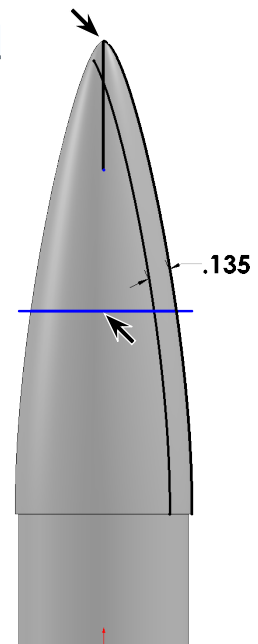

Fig. 15
Step 8. Sketch **vertical line down from top endpoint of converted edge** and **horizontal line** across Nose Cone, **Fig. 15**. To terminate chain, double click back on the line you have just sketched.